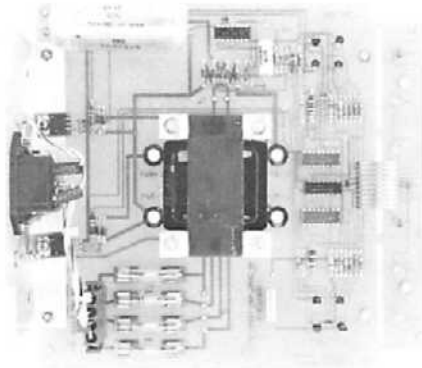

Figure 7-12. Battery Charger Circuit Board.
4. The power cord connector bracket remains attached to the circuit board. See Figure 7-12. The transformer is secured to the main board by four screws and the electrical contacts are soldered into the board.